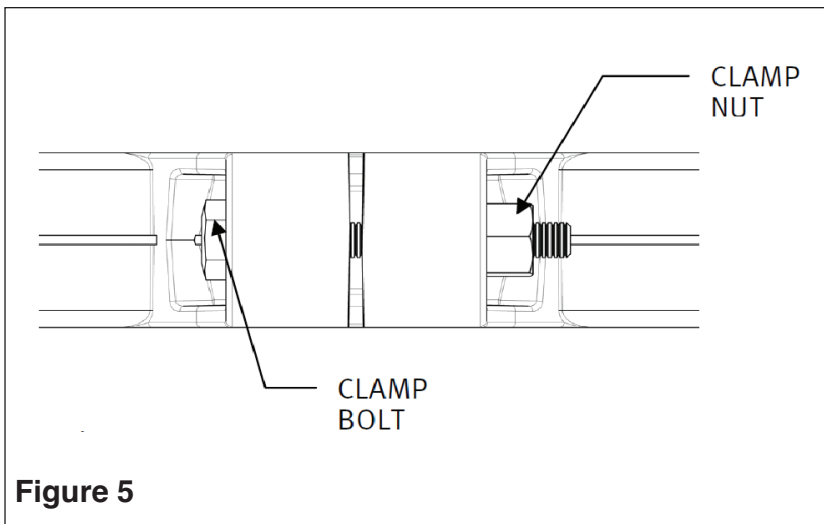

Figure 5
5. Using 3/4" wrenches or hex sockets, loosen and remove the clamp nut and bolt (Fig. 5).